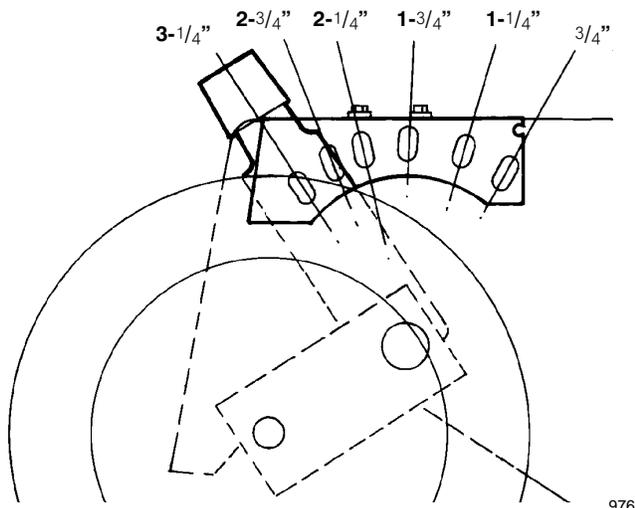

Figure 9
- Grass grows at different rates at different times of the year. In the heat of the summer, it is generally best to cut grass at the 1-3/4", 2-1/4" or 2-3/4" height-of-cut settings (Fig. 9). Only about 1/3 of the grass blade should be cut off. Cutting below the 1-3/4" setting is not recommended unless grass is sparse or it is late fall when grass growth begins to slow down.
The height-of-cut is adjustable from approximately  $\frac{3}{4}$  to  $3\text{-}\frac{1}{4}$  inches (19 mm to 83 mm), in  $\frac{1}{2}$  inch (12.7 mm) increments (Fig. 9). Moving height-of-cut adjuster forward raises height-of-cut.